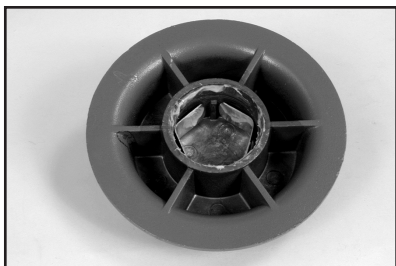

Figure 25 - 5-Sided Flat Spring in Dial
8. Ensure that the 5-sided flat spring is fully recessed in the dial with the spring gap aligned with the internal key of the dial. (See Figure 25.)